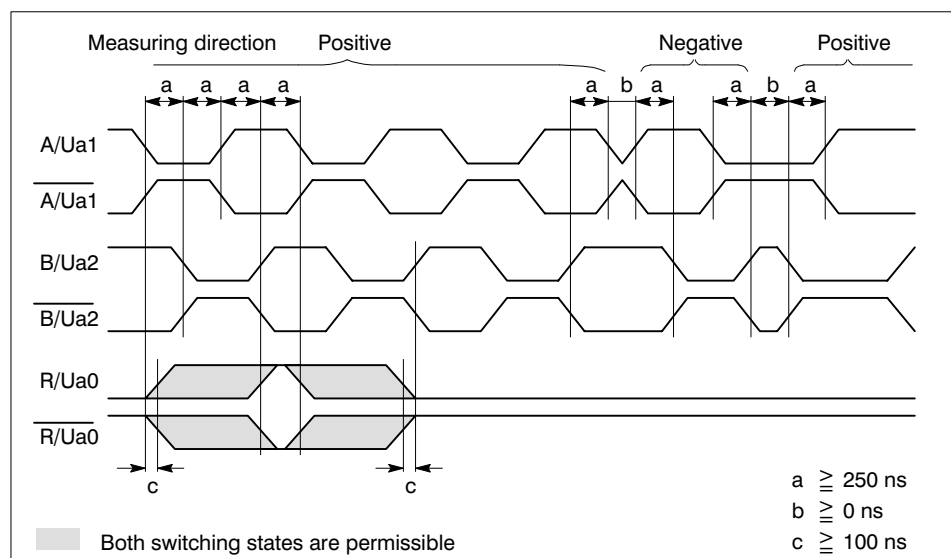

Fig. 5.3.1
- Minimum slope interval between active counter pulses $a \geq 250 \text{ ns}$ (refer to Fig. 5.3.1)
- Min. slope interval for reversal of the direction of rotation $b \geq 0$ (refer to Fig. 5.3.1)
- Safety interval for reference signal $c \geq 100 \text{ ns}$ (refer to Fig. 5.3.1)